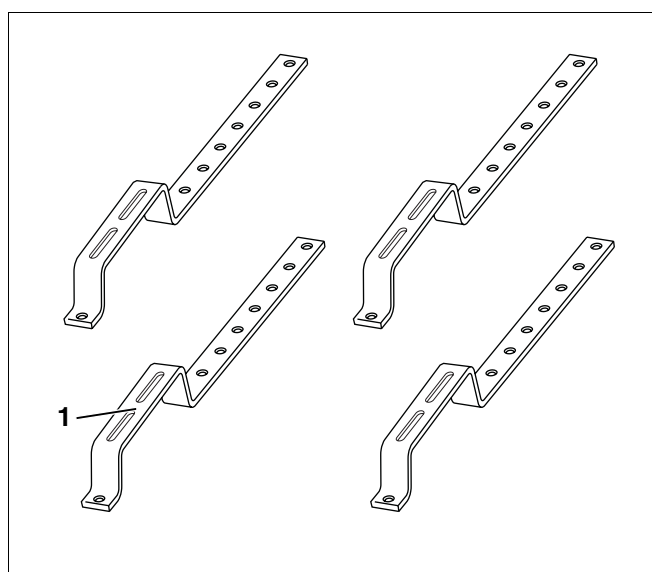

Fig. 7 Special roof hook installation set – accessories
4.2.6 Special roof hook installation set (for slate, shingle and crown tile ridges; accessories; per collector) – Fig. 7